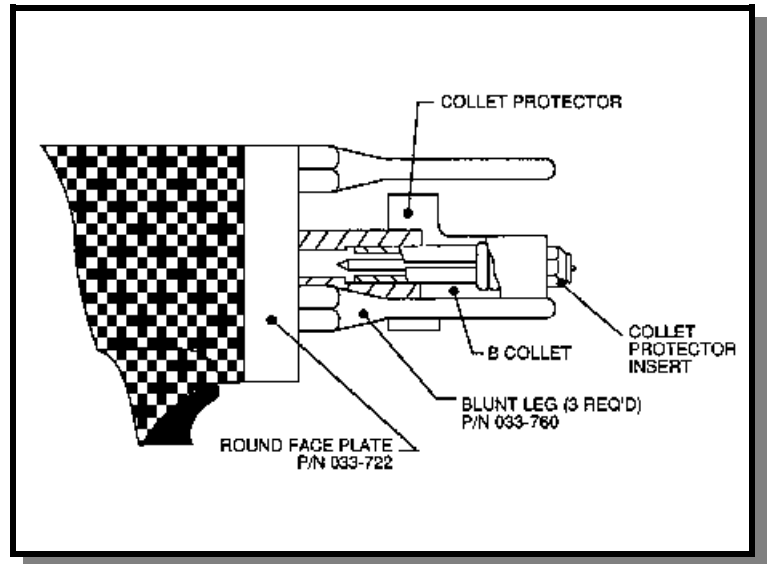

Figure 8 Collet Protector/Blunt Leg Setup
11.5 COLLET PROTECTOR/BLUNT LEG (see Figure 8)
The round faceplate, with blunt legs, can alternately be used with the collet protector as shown in Figure 8.